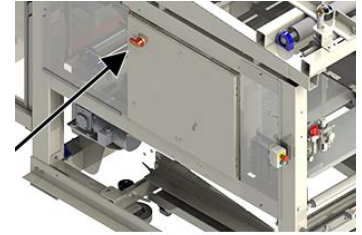

Fig 3
1. Turn the Main On/Off switch to the ON position. See Fig. 3.